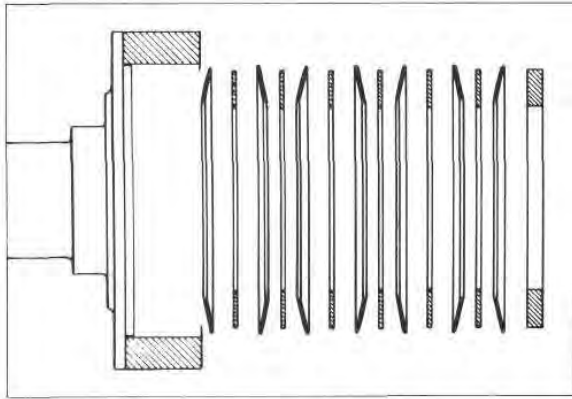

Fig. M10 — Assembly of Outer Clutch Plates
4. Install the driving hub in the ring gear (shouldered edge to the rear) and assemble the clutch plates (Fig. M10).